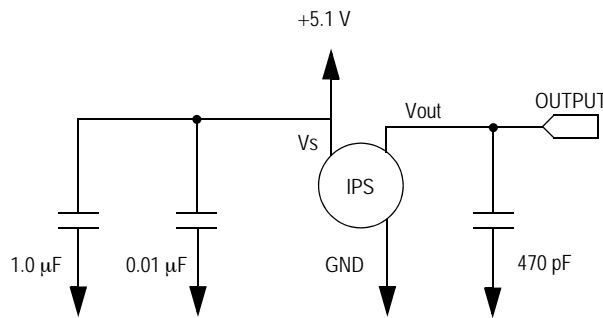

Figure 3. Recommended Power Supply Decoupling and Output Filtering (For additional output filtering, please refer to Application Note AN1646)
**Table 1. Operating Characteristics** ( $V_S = 5.1 V_{DC}$ ,  $T_A = 25^\circ C$  unless otherwise noted,  $P_1 > P_2$ , Decoupling circuit shown in Figure 3 required to meet electrical specifications.)
Figure 3 shows the recommended decoupling circuit for interfacing the output of the integrated sensor to the A/D input of a microprocessor or microcontroller.
Figure 4 shows the sensor output signal relative to pressure input. Typical, minimum, and maximum output curves are shown for operation over temperature range of 0° to 85°C using the decoupling circuit shown in Figure 3. The output will saturate outside of the specified pressure range.